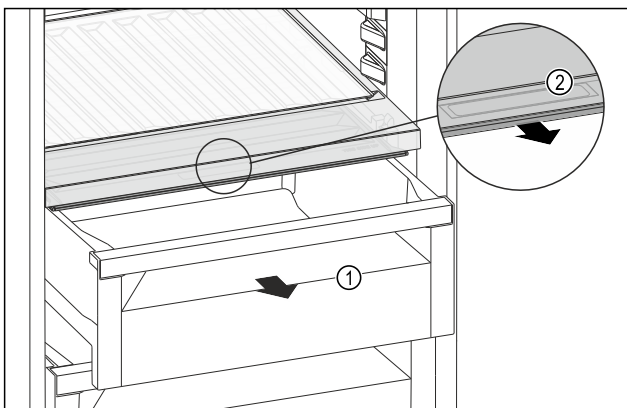

Fig. 160
- ▶ Pull out the drawer Fig. 160 (1).
- ▶ Grasp the recessed grip Fig. 160 (2) on the compartment lid and pull the compartment lid forwards at the same time.